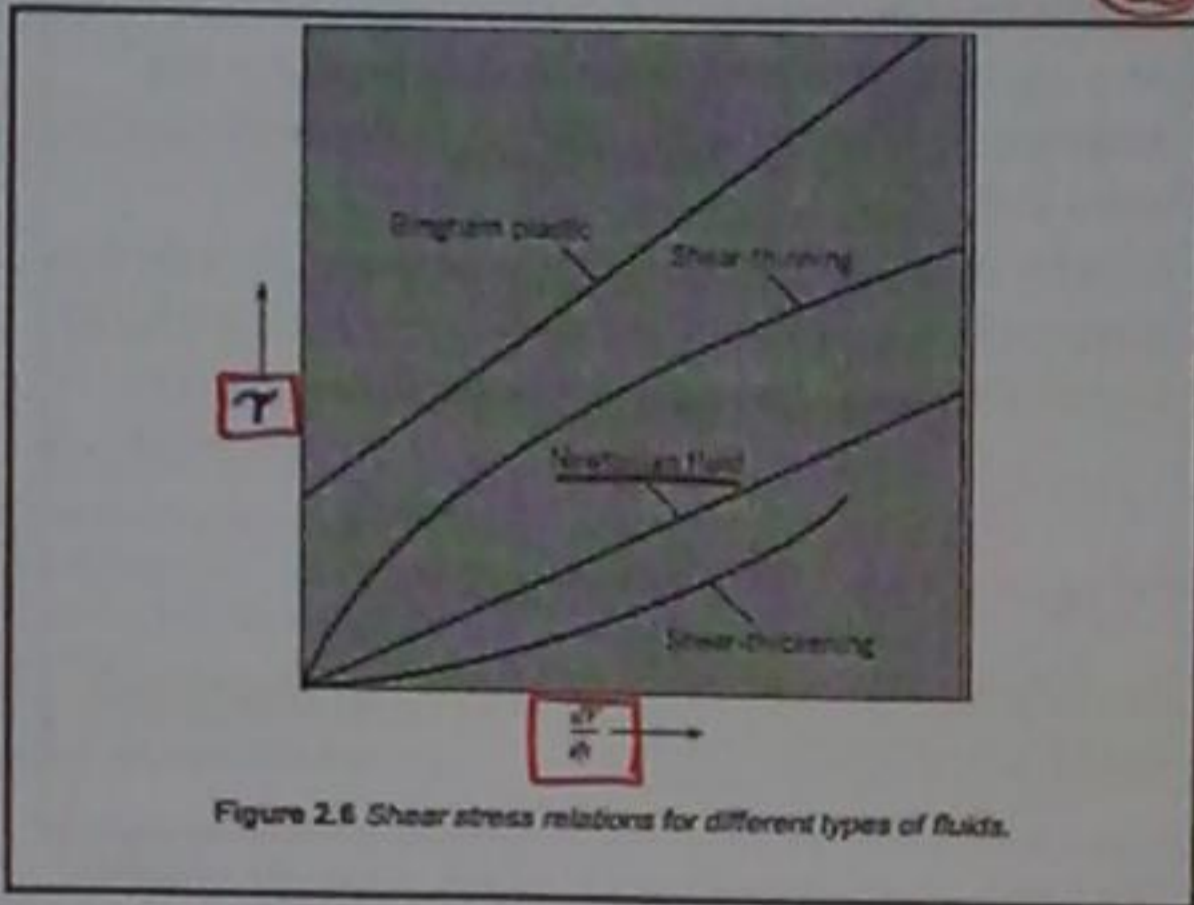

Figure 2.6 Shear stress relations for different types of fluids.
- \* Fluids for which the shear stress is directly proportional to the rate of strain are called **Newtonian fluids**. Because shear stress is directly proportional to the shear strain,  $dv/dy$ , a plot relating these variables (see Fig. 2.6) results in a straight line passing through the origin. The slope of this line is the value of the dynamic (absolute) viscosity.
- \* For some fluids the shear stress may not be directly proportional to the rate of strain; these are called **non-Newtonian fluids**. One class of non-Newtonian fluids, **shear-thinning fluids**, has the property that the ratio of shear stress to shear strain decreases as the shear strain increases (see Fig. 2.6). Some common shear-thinning fluids are toothpaste, catsup, paints, and printer's ink. Fluids for which the viscosity increases with shear rate are **shear-thickening fluids**. Some examples of these fluids are mixtures of glass particles in water and gypsum-water mixtures. Another type of non-Newtonian fluid, called a **Bingham plastic**, acts like a solid for small values of shear stress and then behaves as a fluid at higher shear stress. The shear stress versus shear strain rate for a Bingham plastic is also shown in Fig. 2.6. This book will focus on the theory and applications involving Newtonian fluids.